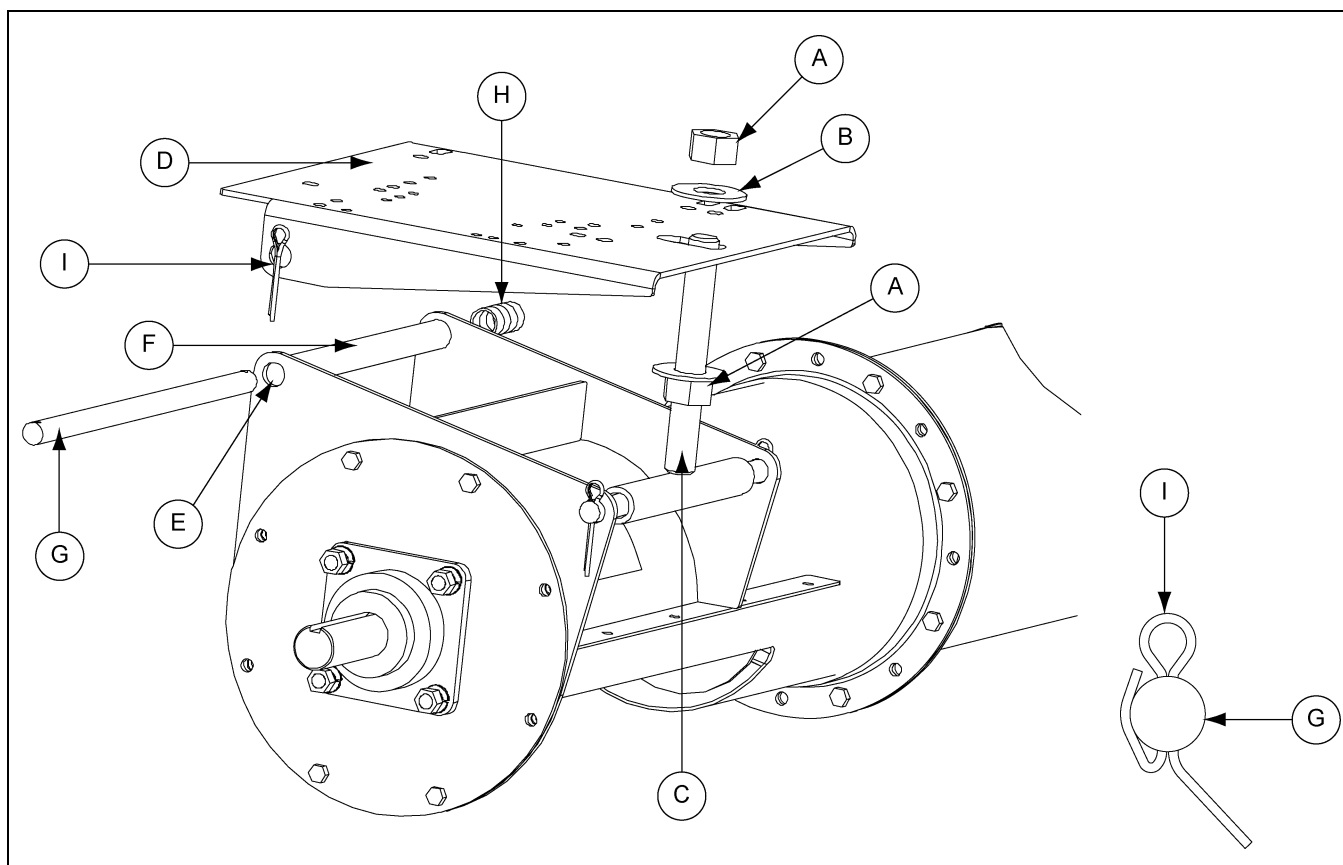

Figure 4E
1. Secure one of the motor mount adjustment nuts (A) and one the motor mount adjustment washers (B) approximately 3/4 of the way down the motor mount adjuster's threaded shaft (C).
2. Once the nut and washer is secure, slip the motor mount plate (D) over the adjuster and align the pivot holes (E) with the pivot tube (F). *(See Figure 4E.)*
3. Slide the motor mount pivot rod (G) through the pivot tube (F) on the discharge tube.